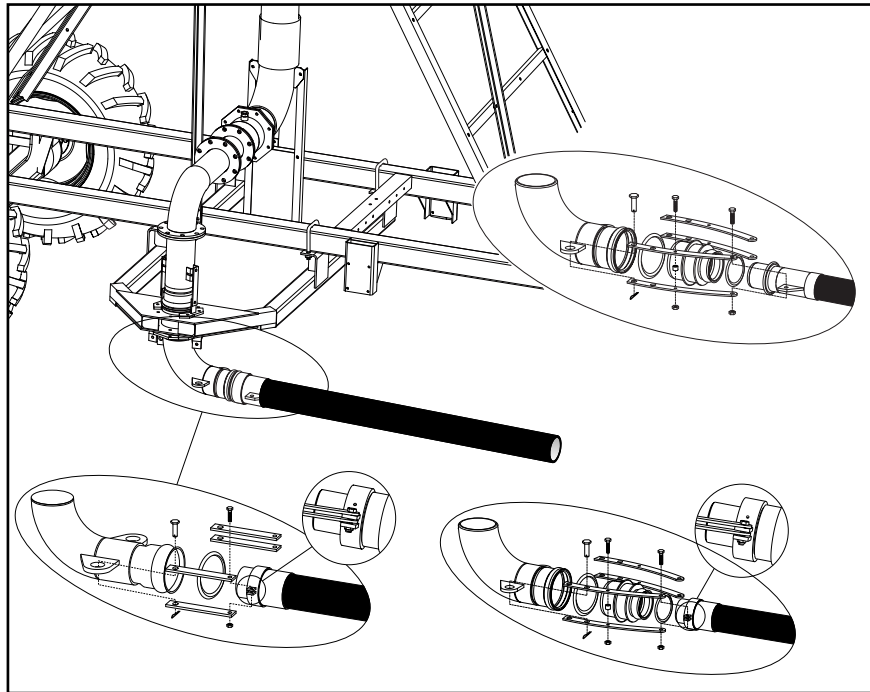

Figure 48-1 Side Inlet Hose Couplers
- Hose coupler design varies depending on the type and size of the hose. See Figures 48-1 and 48-2.
- Side inlet hose couplers are secured to the inlet with pull straps. See Figure 48-1.